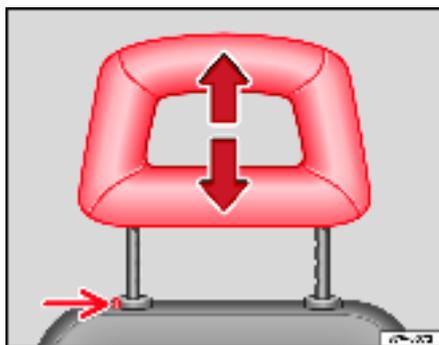

Fig. 85 Adjusting and removing the head restraints
- Push the head restraint up (in the direction of the arrow) or push it down with the button pressed ⇒ fig. 85 (arrow). Correct setting ⇒ page 123.
- Press the button ⇒ fig. 85 -arrow-.
- Press and hold button ⇒ fig. 85 (arrow) and push the head restraint down **as far as it will go**.